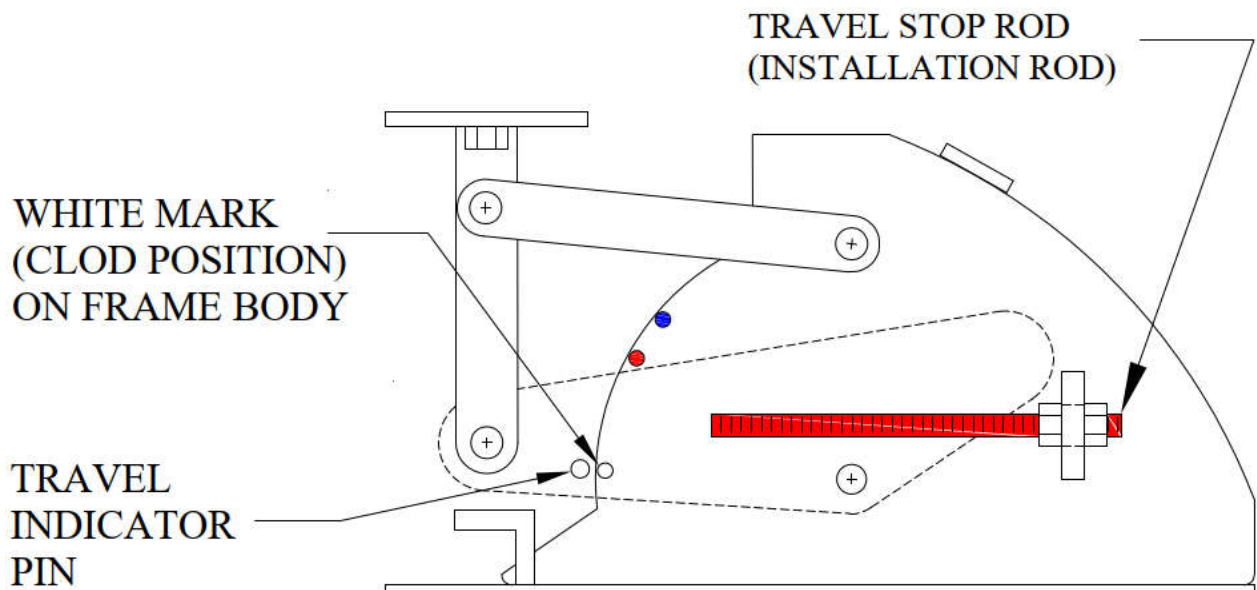

Figure 14: 100-F (Layout-B) Commissioning State
5. Unscrew the travel stop rods from the load flange by rotating the rods clockwise until completely removed. Store rods in their designated location on the constant's frame (see figure 14 on page 11).
6. Unscrew the travel stop rods from the load flange by rotating the rods clockwise until completely removed. Store rods in their designated location on the constant's frame (see figure 14 on page 11).